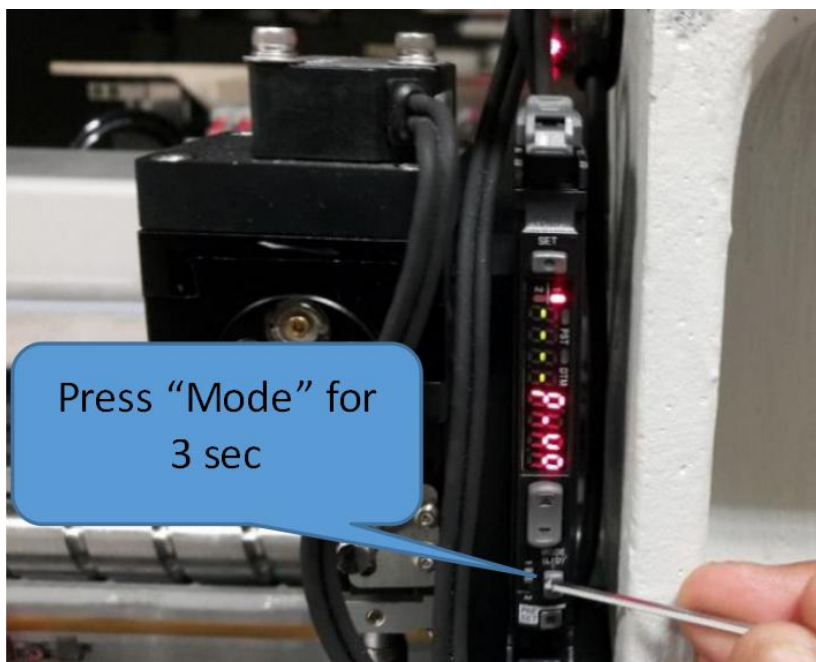

Figure 20 Keyence Amplifier Mode Setting
- Press the “Mode” button and hold the button for more than 3 seconds to enter the setting mode as shown in the Figure 20